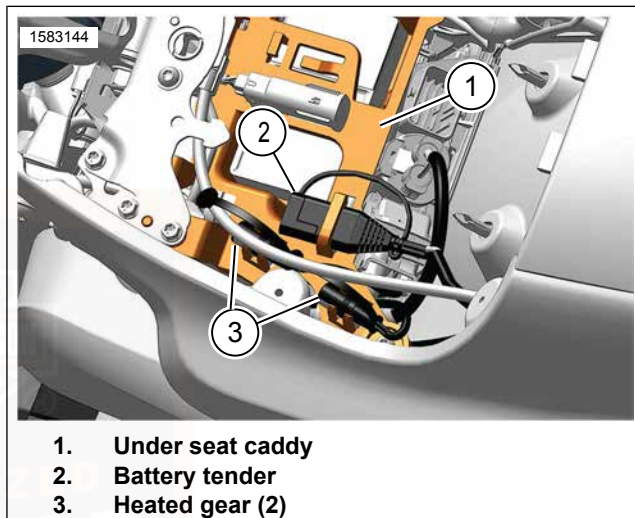
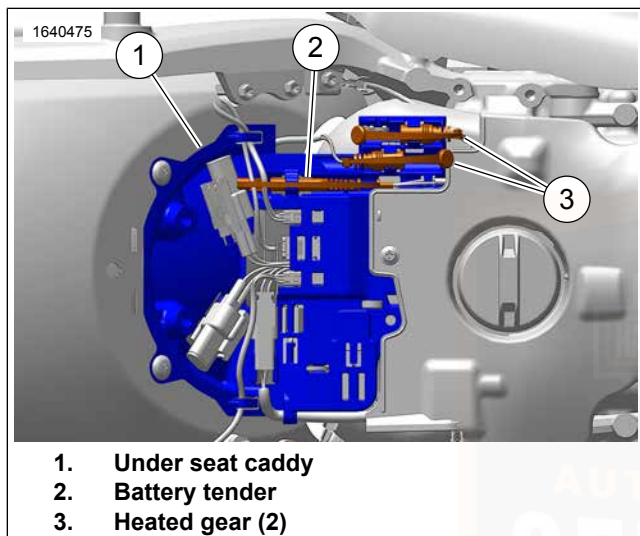

Figure 74. Under Seat (Top Mounted Fuel Tank)
Figure 75. Under Seat (Under Seat Fuel Tank)
See Figure 74 or Figure 75. Maintaining the battery between rides and while stored can maintain battery charge and extend the life of the battery. Connect the battery tender connector (2) to a battery tender during storage or to a battery charger if the battery voltage drops below specification. See Battery Maintenance (Page 162).